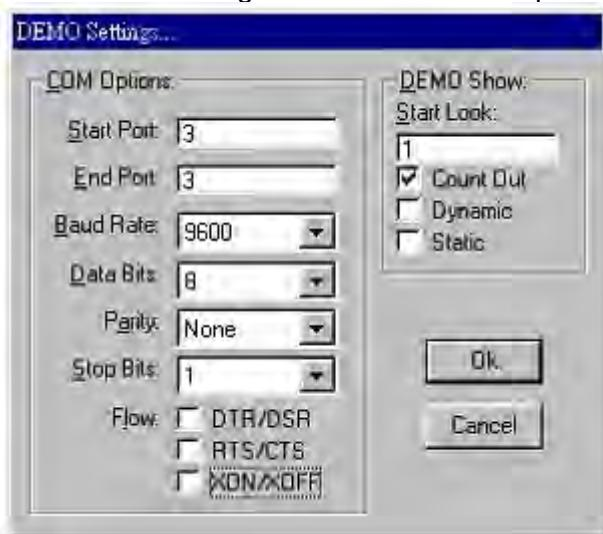

Fig.6
3. Click the "Setting" to set the RS422 loop counter (See the Figure 6); your system will detect the COM3.